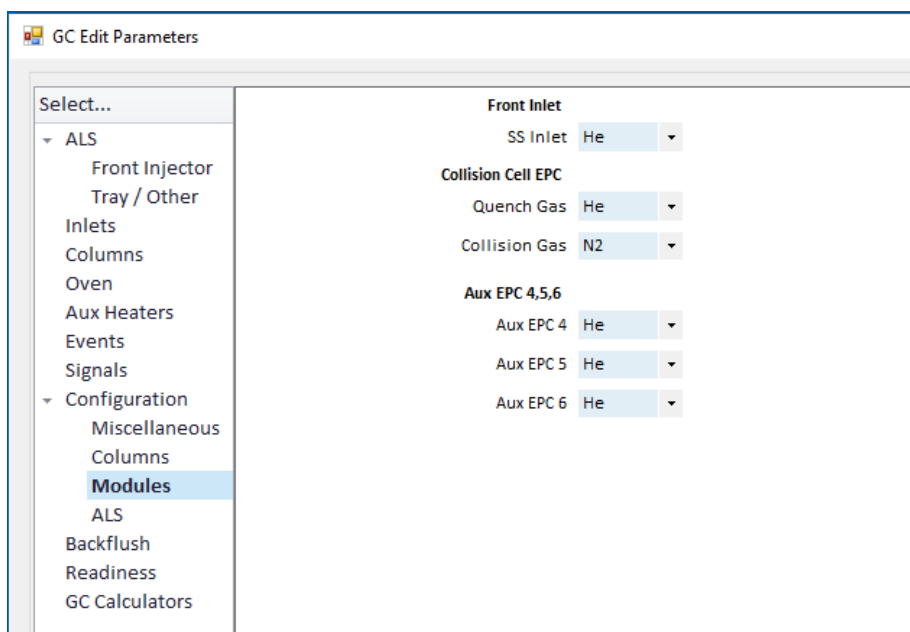

Figure 34. Configure CC gas
- 3 Click the **Configuration** icon, then select the **Modules** tab to display the screen. (See **Figure 34**.)